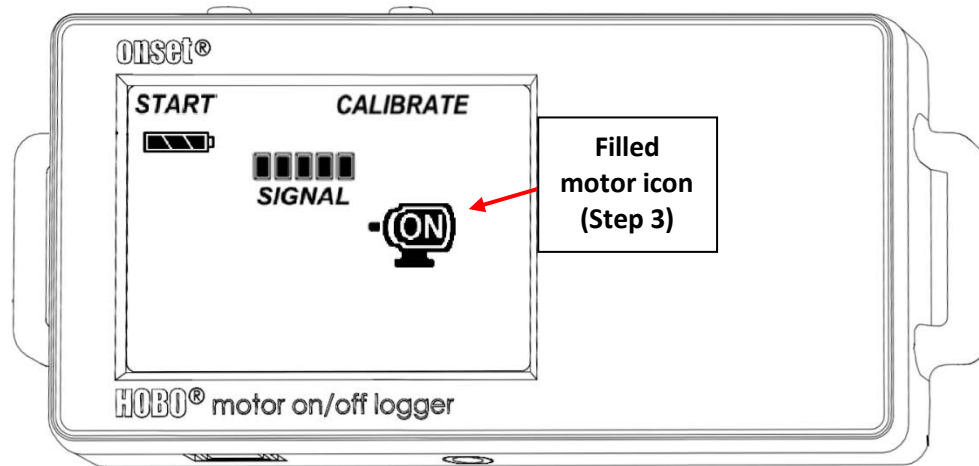

Figure A.1.11: HOBOb motor on/off data logger with full signal strength.
3. Turn on the motor. At least 3 bars right under the word “SIGNAL” should be filled. Figure A.1.11 shows all 5 bars filled which indicates full signal strength between the logger’s internal sensor and the motor the logger is attached to. If not, reposition the logger until at least 3 bars are filled. The motor icon on the LCD screen should be filled after the motor has been turned on as shown on